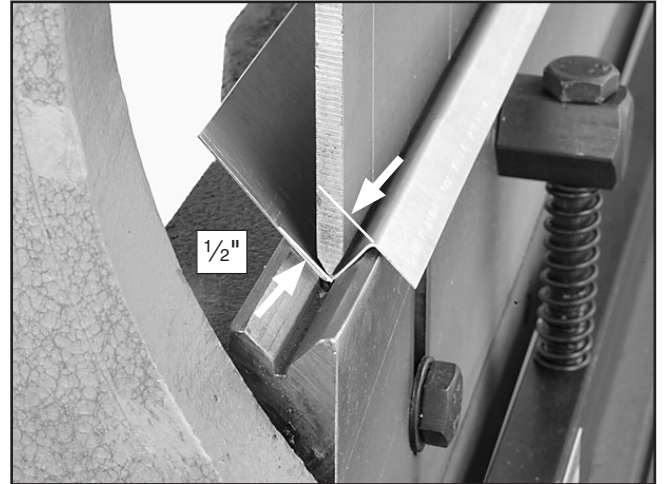

Figure 30. Minimum reverse bend.
6. If a reverse bend is required, reinstall the workpiece upside-down and repeat **Step 3** (**Figure 30**).